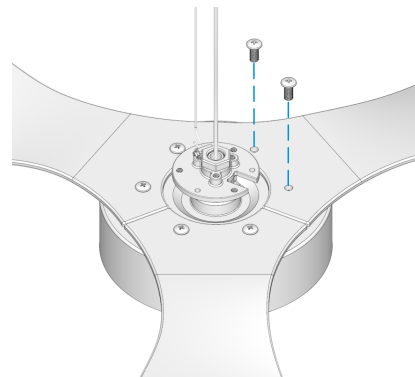

Fig. 2.2
2.2 Perform the same steps for the remaining blades. The completed blade installation is displayed in Fig. 2.2.